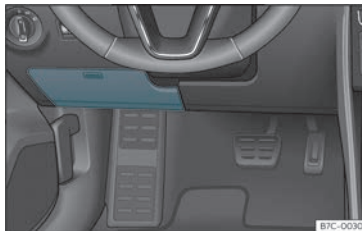

Fig. 43 Left hand drive vehicles: fuse box cover under the driver's side dashboard
- *Open*: fold the cover down >>> Fig. 43.